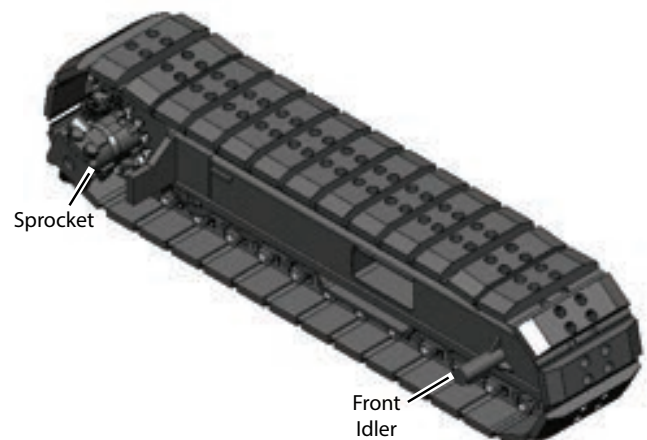

Figure 5-29. Front Idler
Follow this procedure for replacing the front idler (**Figure 5-29**):
1. Follow Steps 1-4 in the previous section. The track tension cylinder is located behind the front idler. **(Figure 5-29)**
5. Lower sprocket back down toward the track chain, ensuring the sprocket is about one (1) inch (2.54 cm) from the chain.
6. Remove bolts holding sprocket. **(Figure 5-29)**